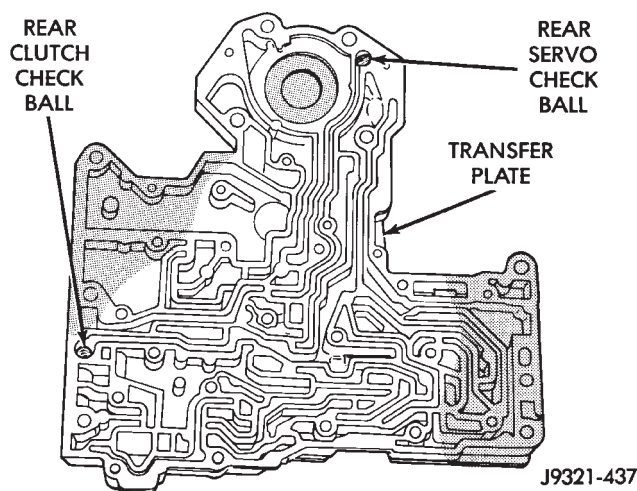

Fig. 68 Rear Clutch And Rear Servo Check Ball Locations
- (1) Install rear clutch and rear servo check balls in transfer plate (Fig. 68).